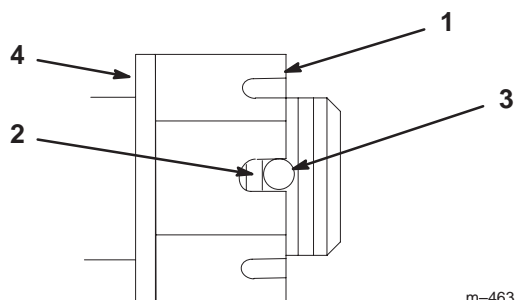

Figure 47
3. Torque slotted nut to 125 ft.-lb. (169 N•m) (Fig. 47).
4. Check the distance from bottom of slot in nut to inside edge of hole. Two threads or less should be showing (Fig. 47).
5. If more than two threads are showing remove nut and install washer between hub and nut (Fig. 47).
6. Torque the slotted nut to 125 ft.-lb. (169 N•m) (Fig. 47).
7. Tighten nut until the next set of slots line up with the hole in the shaft (Fig. 47).